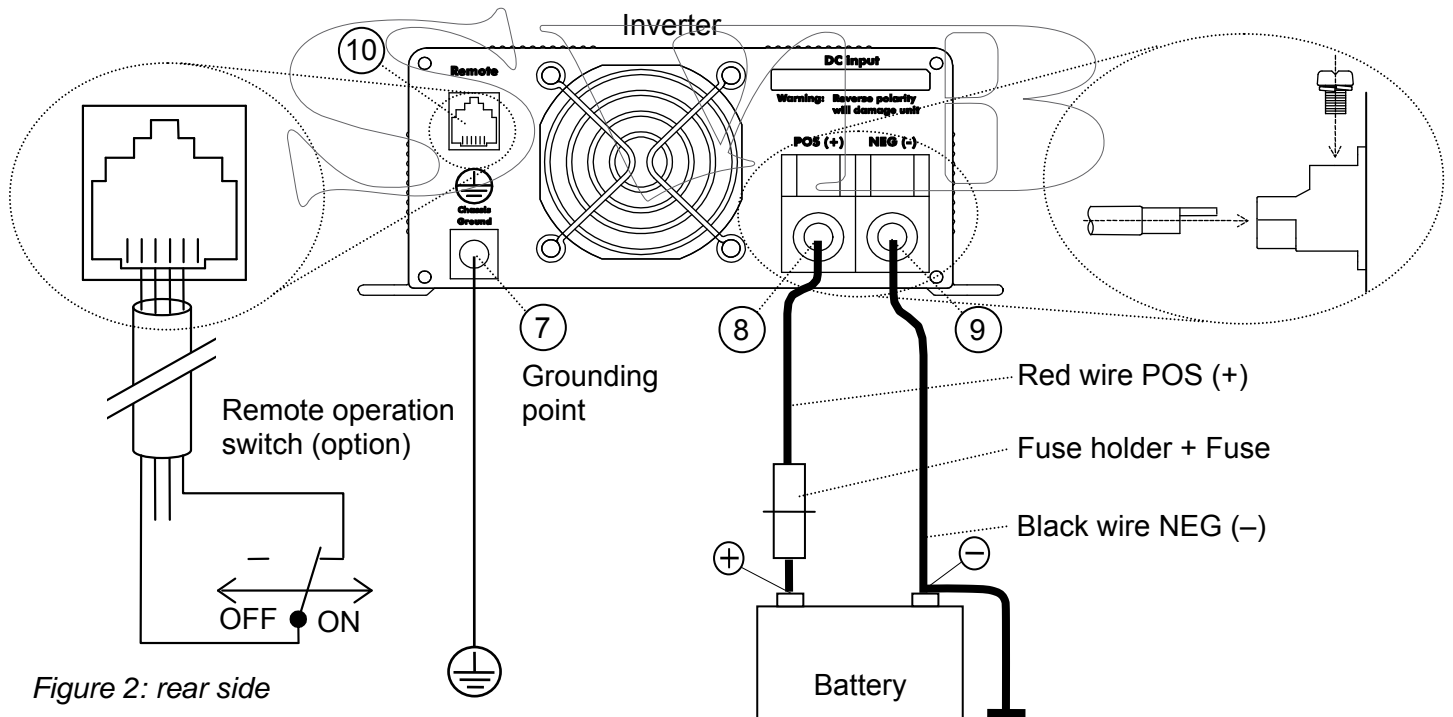

Figure 2: rear side
- The chassis ground terminal (see Figure 2, ref. 7) must be connected to the central grounding point of the vehicle/ ship
- The neutral conductor (N) of the AC output of the Inverter must be connected to the safety ground (PE/GND) and a ground fault circuit-interrupter (GFCI) must be integrated in the wiring of the AC output. See below for model specific information.
- Connect DC wiring as shown in Figure 2: the black terminal (9) NEG (-) to the negative (-) pole of the power source / battery, the red terminal (8) POS (+) to the positive (+) pole of the power source/ battery. Integrate a DC fuse holder in the positive wiring, but do not place the fuse yet. Assemble the DC wiring exactly as indicated. Do not place anything between the ring terminal and the terminal surface. Make sure that all DC connections are tight. Recommended torque: 11.7-13 Nm / 104-115 InLbs
- Chassis ground: Use a cable AWG8 / 6 mm2 to connect the CHASSIS GROUND terminal (7) to the central ground.
- Remote operation switch (option). If you want to operate the Inverter on a remote location, you can install a switch as indicated in Figure 2. When the contact is closed, the Inverter is switched on.